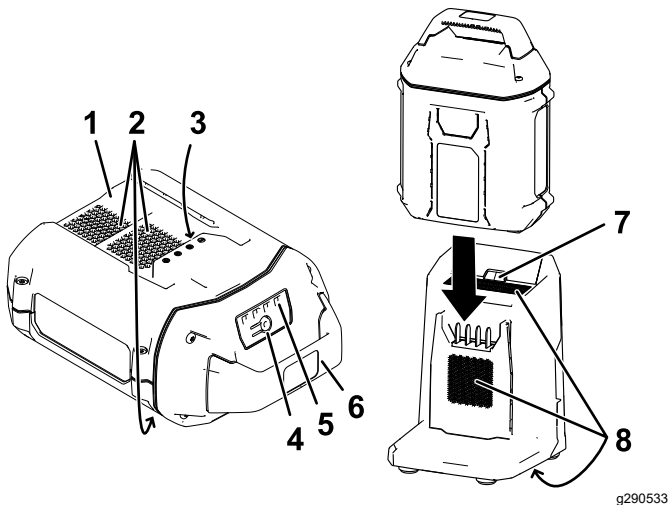

Figure 13
- 2. Line up the cavity in the battery pack (Figure 13) with the tongue on the charger.
- 3. Slide the battery pack into the charger until it is fully seated (Figure 13).